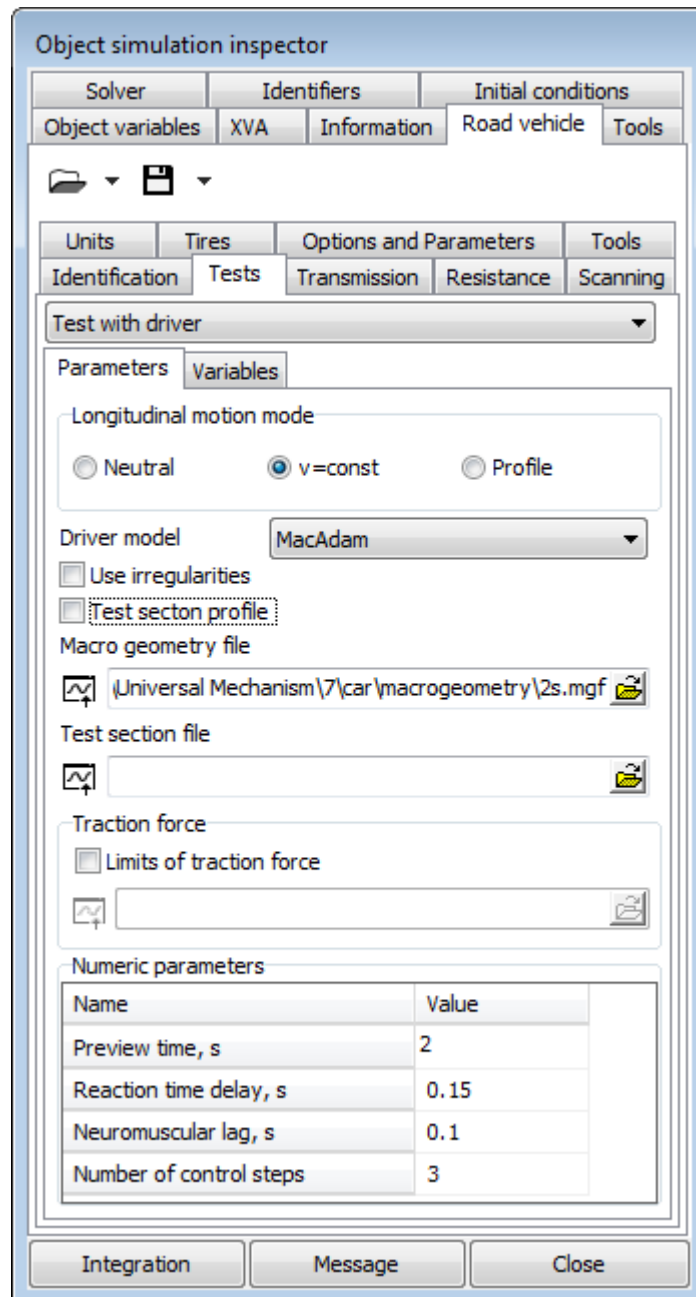

Figure 1.9. Double lane change
3. Select the **Road vehicle | Tests**, see Figure 1.9.
4. Desired path is described in the **2s.mgf** file, see Figure 1.9. To visualize the path click the  button. New graphical window with plot of desired path appears.